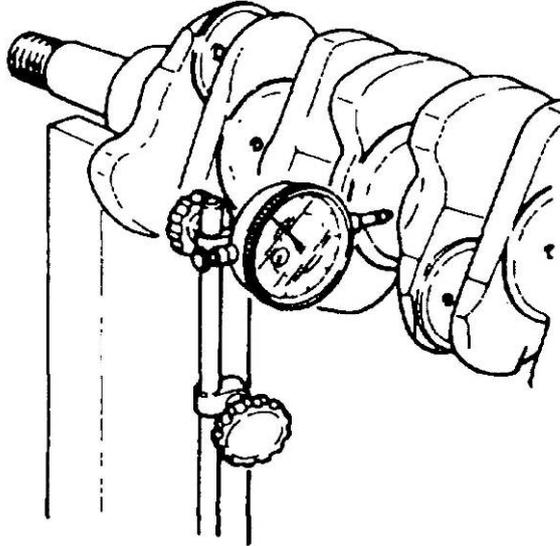

Figure 25 Measuring the Crankshaft Run-out
- i. With the crankshaft cradled on V-blocks, check for bend or run-out with a dial indicator positioned on the centre main bearing journal (Figure 25). The crankshaft should be supported on the main bearing journals at each end. Ensure that bearing journal wear is taken into consideration when measuring the run-out. Standard run-out is 0.05 mm (0.002 in) or less, and the limit is 0.30 mm (0.012 in). If the run-out exceeds the limit, replace the crankshaft.